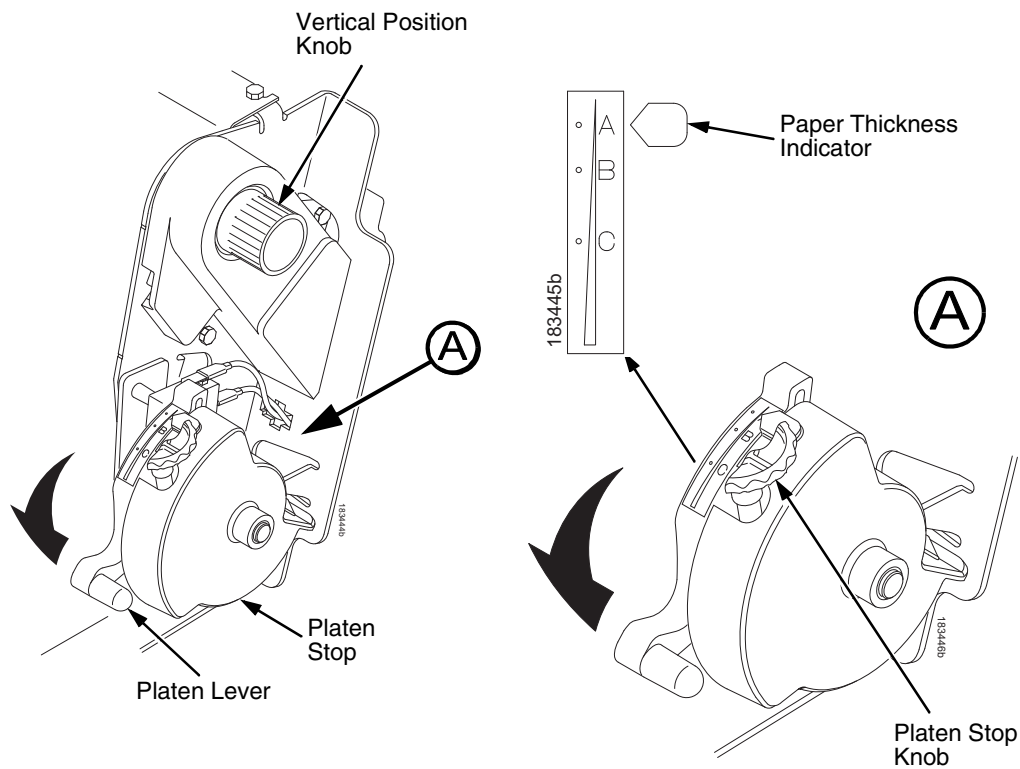

Figure 16. Setting the Platen Lever
10. Turn the platen stop knob clockwise or counterclockwise to match the paper thickness (A-B-C scale corresponds approximately to 1-, 3-, and 6 part paper thickness). See Figure 16.